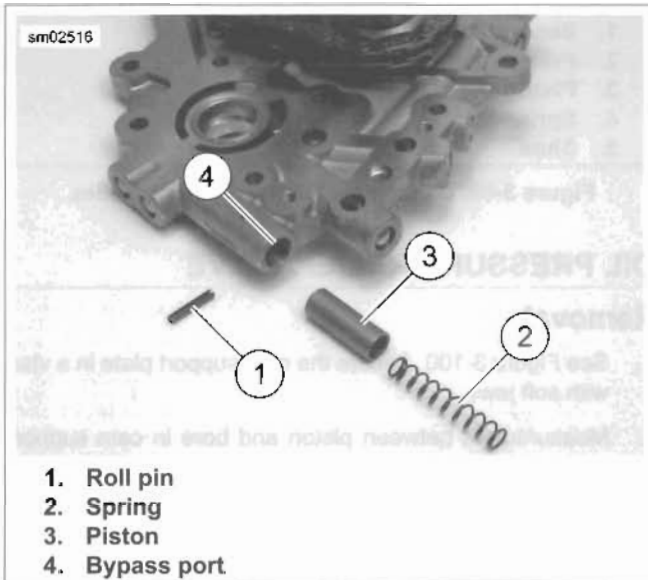

Figure 3-100. Oil Pressure Relief Valve Assembly
1. See Figure 3-100. Secure the cam support plate in a vise with soft jaws.
3. Use a 1/8 in punch to remove roll pin (1). Discard roll pin.
4. Remove spring (2) and piston (3) from bypass port.
2. See Figure 3-100. Lubricate piston (3) with SCREAMIN' EAGLE ASSEMBLY LUBE. Slide piston into bypass port of cam support plate with the open side facing outward.
3. Slide spring (2) into bypass port until seated in piston.
4. Start new roll pin (1) into hole in cam support plate. Compress spring using the blade of a small screwdriver.